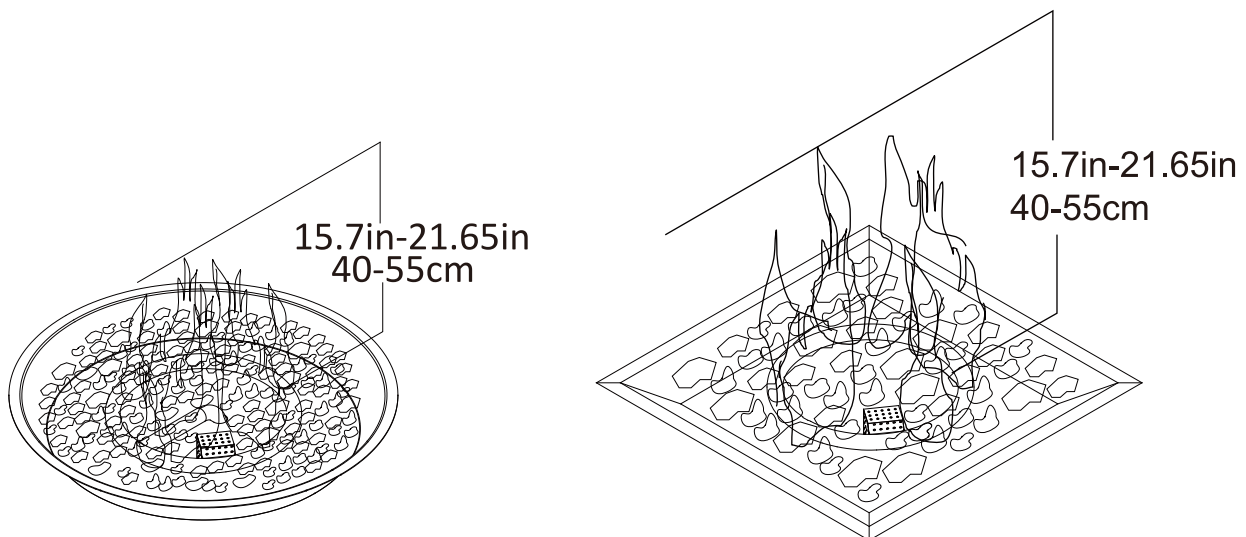

Figure 3
10. After lighting, observe the burner flame make sure all burner ports are lit and flame height matches illustration. (Figure 3)